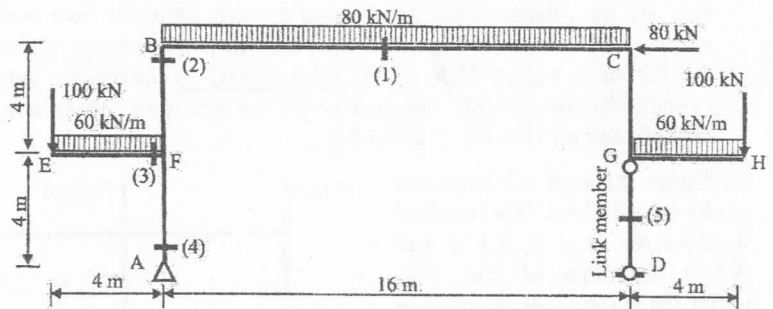

Fig. 5
- (d) Figure 5 shows the static system, ultimate loads, and dimensions of intermediate RC frame ABCDEFGH. The frame is used to cover a hall with a span of 16.0m, as well as two side parks with a span of 4.0m. The frame is supported on a hinged support at (A) and a link member at (DG). The frame is spaced at 5.0m and the slab thickness is 120mm. The frame has a constant cross section width of 400mm. The given loads are ultimate loads including own weight. Determine the following: